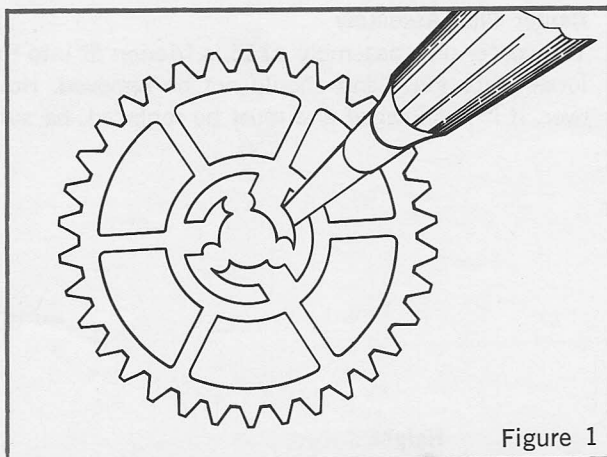

Figure 1
3. With a screw driver, carefully stress the prongs toward the center of the wheel. (Fig. 1)